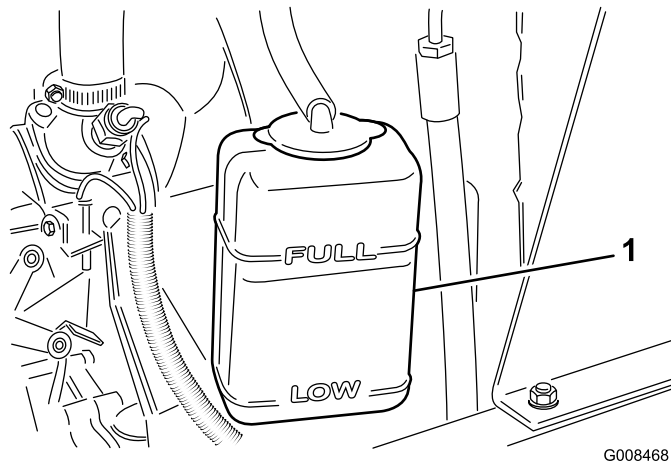

Figure 22
1. Check the level of the coolant in the expansion tank (Figure 22). The coolant level should be between the marks on the side of the tank.